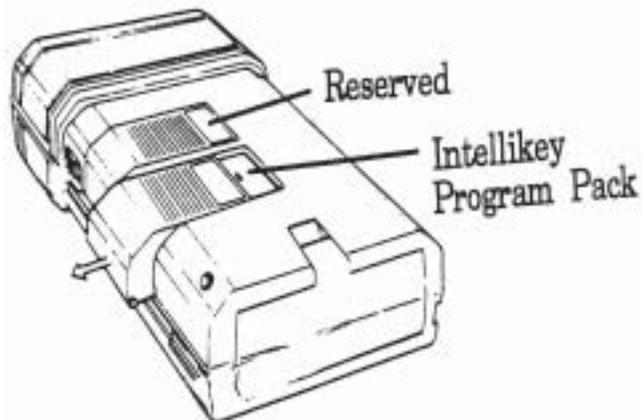

Fig. 4.0-3 Removing/Inserting the RAK Program Pack
E. In order to insure compatibility with future upgrades the INTELLIKEY Program Pack should be inserted into the lower (farthest from the display) of the two side slots available on the PSION hand held computer (Fig. 4.0-3). Once again avoid applying excessive force when installing or removing the pack.